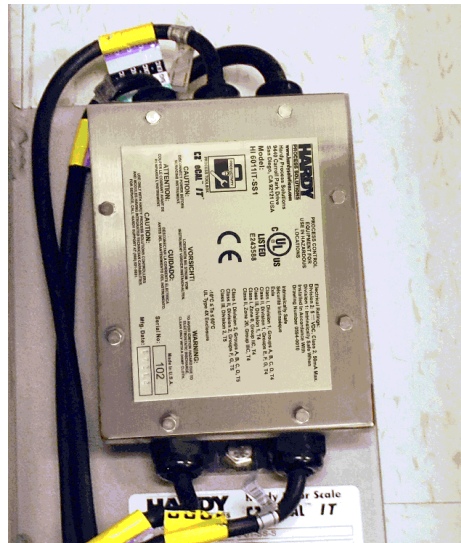

FIG. 14 REMOVING THE SUMMING BOX COVER
- Step 1. Use a 5.5 mm hex wrench or a 5.5 mm hex socket to loosen the 8 hex bolts that fasten the summing box cover to the chassis (See Fig. 14).